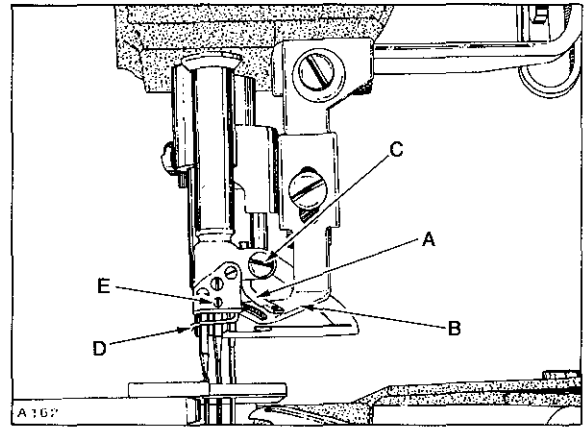

Fig. 32
With needle bar at BOTTOM of stroke, spreader thread eyelet (A, Fig. 32) should clear stationary spreader thread guide (B) by approximately 1/32 inch (0.8mm) and aligned as close as possible with the center of the SLOT in same. If adjustment is required, care must be taken NOT to disturb alignment of needle bar. Loosening screw (C) which allows a 4-way directional movement of eyelet (A). Retighten screw (C).